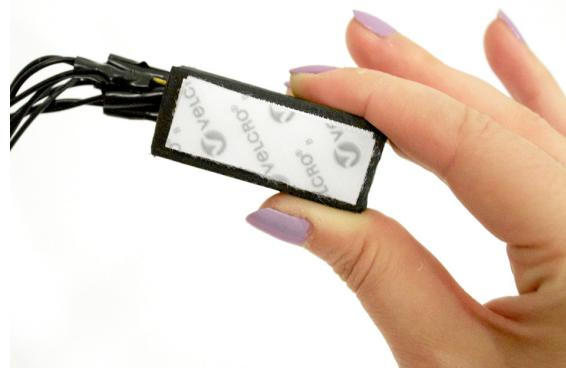

Figure 14-18 Velcro attached to bottom of the case
2. Stick the Velcro to the bottom of the Arduino case/Arduino itself, as shown in Figure 14-18.